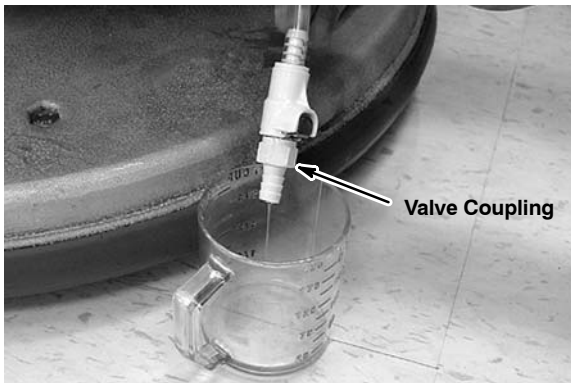

FIG. 67
2. Connect the valve coupling (purchased part) to the supply hose and drain the remaining concentrate into a small container (Figure 67). Squeeze the supply hose several times if the concentrate does not flow.